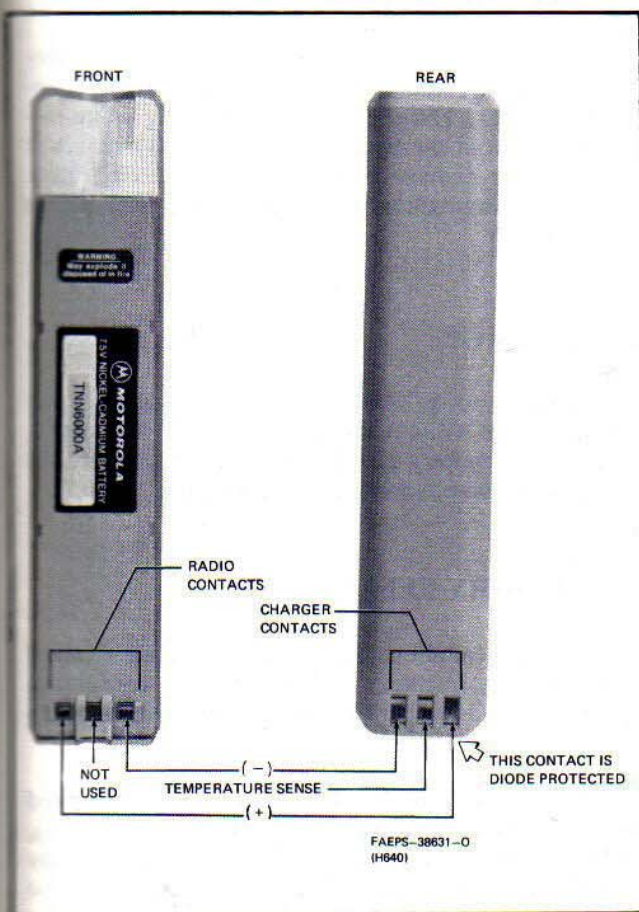

Figure 1. TNN6000A Battery Pack
1.1 The TNN6000A Battery Pack, shown in Figure 1, is a 7.5V, 800 mAh, nickel-cadmium power source capable of 30 minutes of transmitting and 7.5 hours of standby operation before recharging. Recharging can be accomplished through desktop or in-vehicle chargers with the battery pack either attached to the portable telephone, or by itself.